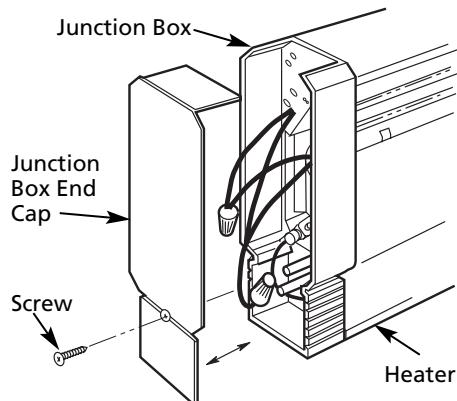

Figure 4 – Removal of End Cap
3. Remove the left or right junction box end cap by removing the screw in the end of the heater and sliding the cap outward from the heater (Figure 4).
2. Remove selected junction box end cap (Figure 4, page 3) and discard; save screw.